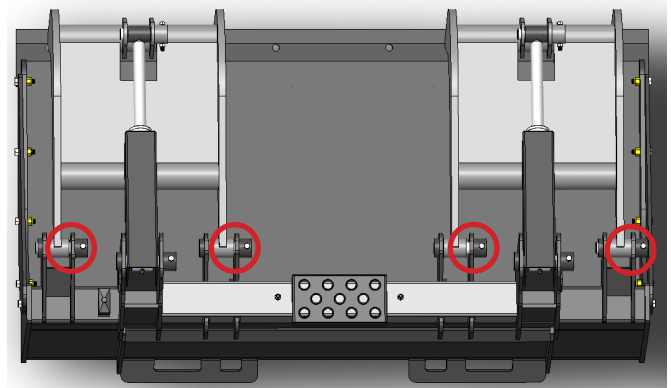

Figure 1
Both Heavy Duty Series 1 and Heavy Duty Series 2 Grapple Buckets have four (4) grease points. These points are circled in Figure 1.